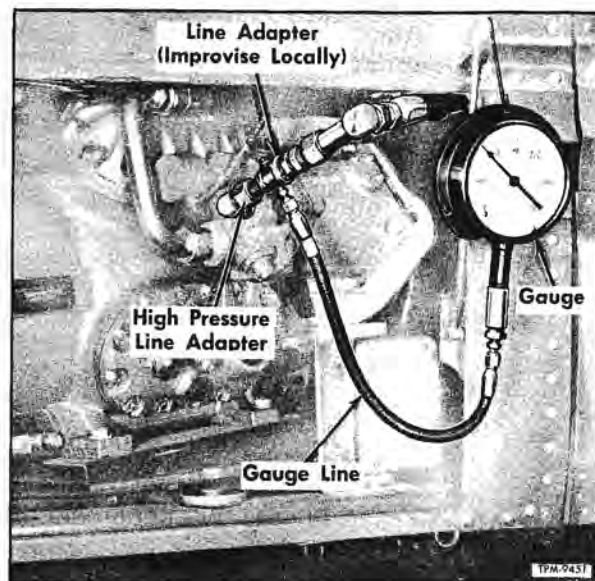

Figure 135—Checking Fan Drive Pump Pressure
1. Refer to figure 135 which shows test gauge installed in the high pressure hose to the condenser fan motor.